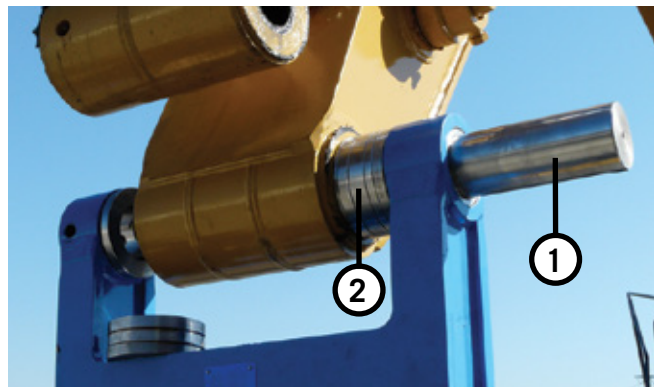

Fig. 1-2
3. Attach the adaptor to the excavator arm using the pin (Fig. 1-2, 1). Use the correct spacers (Fig. 1-2, 2) to center the arm between the adaptor.
7. To turn off the lifter, hold the left red button (Fig. 1-2, 8) until the lifter's engine powers down completely.